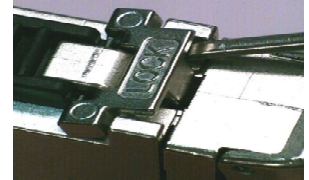

Figure 13 Trim braids even w/ rear body end
- 11) With rear body locked in, push cable forward into connector, giving 1/8 to 1/4 twist, which provides some wire slack between cable exit and wire carrier entry. Route the cable to fit into the rear body cavity as shown (Fig. 13). Trim off excess wire braids evenly with the end of the rear body (Fig. 13); cable may need to be lifted out of cavity to access all braids for trimming.